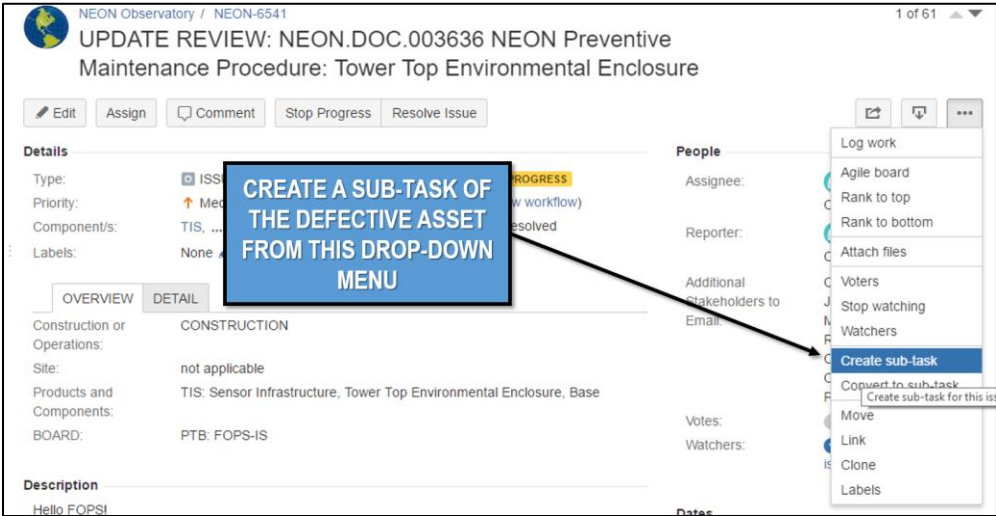

Figure 45. Create a Sub-Task for Chain of Custody of the Defective Asset for HQ Root Cause Analysis
1. For each issue where NEON, HQ is replacing a defective instrument/subsystem at an AIS site, please create a sub-task in the NEON Issue Management and Reporting System for the defective asset from the reported issue. Resolution of an issue does not occur with the installation of a replacement, but with the root cause analysis of the issue deriving from the defective asset. FOPS may resolve the ticket upon installation of the replacement if a sub-task exists for the defective asset for NEON HQ to conduct root cause analysis. Figure 45 displays where to create a sub-task from an issue involving a defective asset returning to NEON HQ.